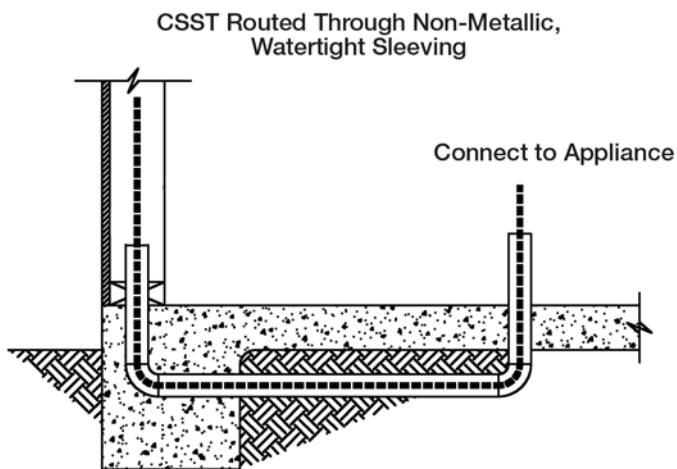

Fig. 4-87
- a) Gastite®/FlashShield™ CSST shall not be buried directly in the ground or directly embedded in concrete (e.g. slab on grade construction, patio slabs, foundations and walkways). When it is necessary to bury or embed Gastite®/FlashShield™ CSST, the tubing shall be routed inside a non-metallic, watertight conduit that has an inside diameter at least 1/2 inch larger than the O.D. of the tubing (Fig. 4-87). For ends of the conduit installed outdoors, the conduit shall be sealed at any exposed end to prevent water from entering.